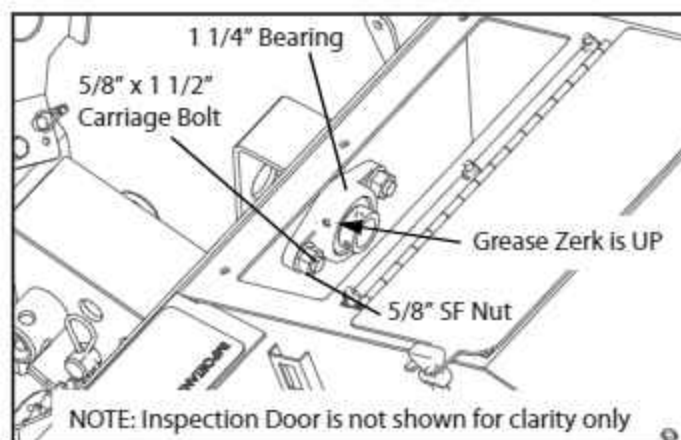

FIG. 3-58. Inner Bearing Installation
20. Open the lower boot inspection door and install a 1 1/4" bearing inside the boot as shown in Fig. 3-58. Make sure the grease zerk is up. Fasten in place using two 5/8" x 1 1/2" carriage bolts and serrated flange nuts.